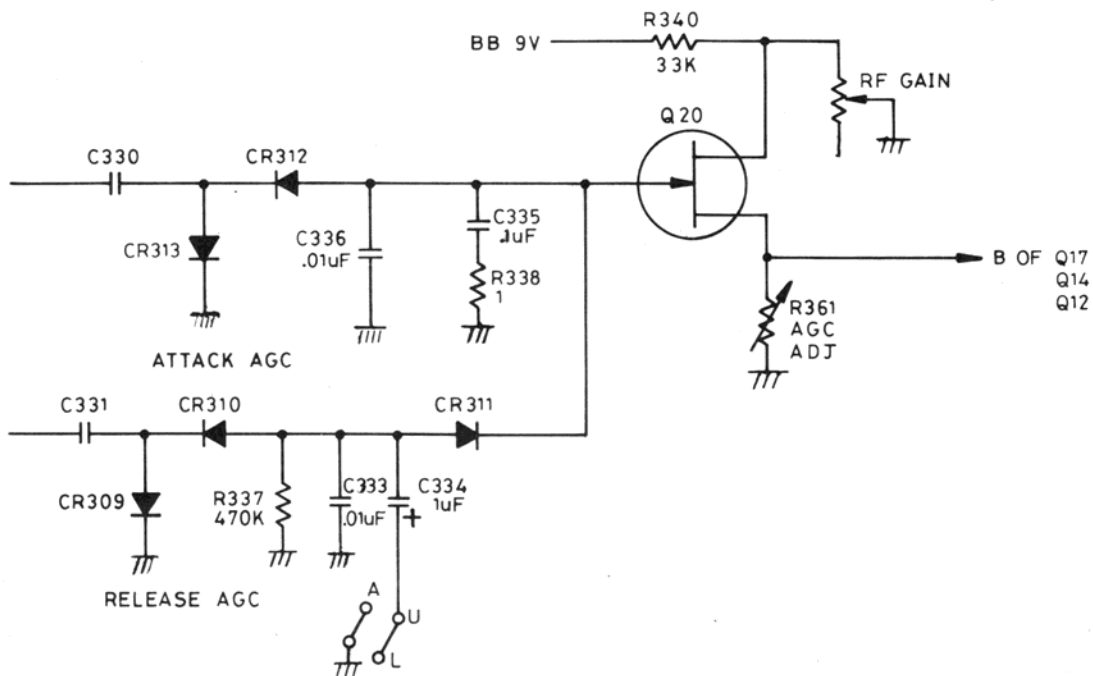

Figure 2-9 AGC Circuit
2.5.7 Automatic Gain Control (AGC) (Refer to Figure 2-9)